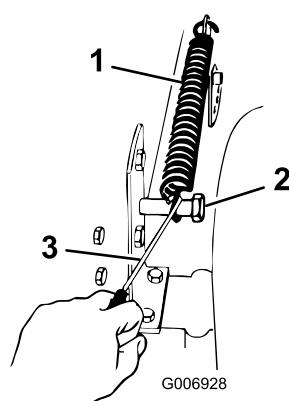

Figure 45
18. Hook the lift assist spring between the mower right side lift bracket and the retaining bolt (Figure 45).